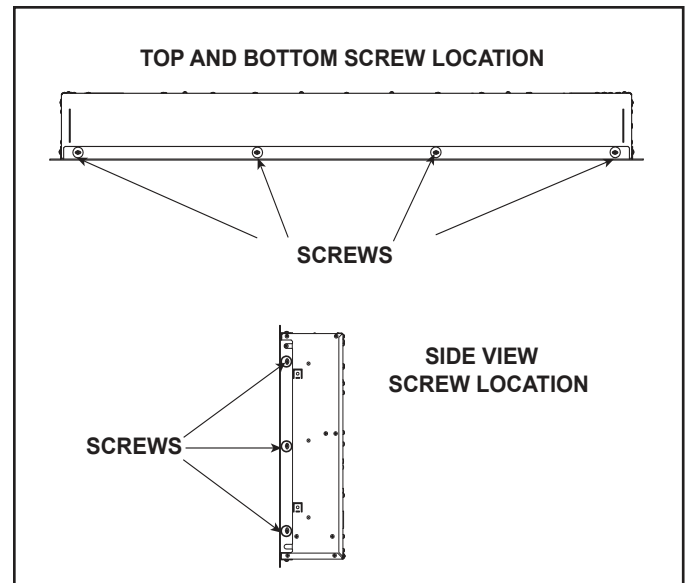

Figure 3 Remove Trim Screws
1. Remove by removing the ST4X8 phillip screws on the top, bottom and sides of the appliance See Figure 3.